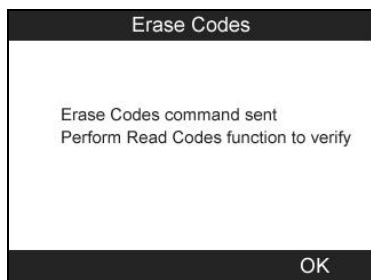

Figure 3.26
4. If the erase command is successfully sent, a notice screen will show up, press the **Y** button to confirm and exit. (Figure 3.26)